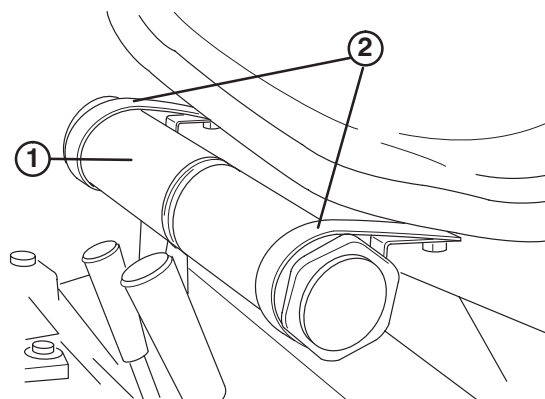

Figure 10
1. Remove manual tube and R-clamps secured to seat plate. Retain (2) mounting capscrews and flatwashers.
2. Loosely mount R-clamps to outer holes in right side of seat with (2) capscrews and flatwashers previously removed. (Fig. 10).
3. Install manual tube into R-clamps, insert manual into tube and thread cap into tube (Fig. 10). Tighten capscrews.